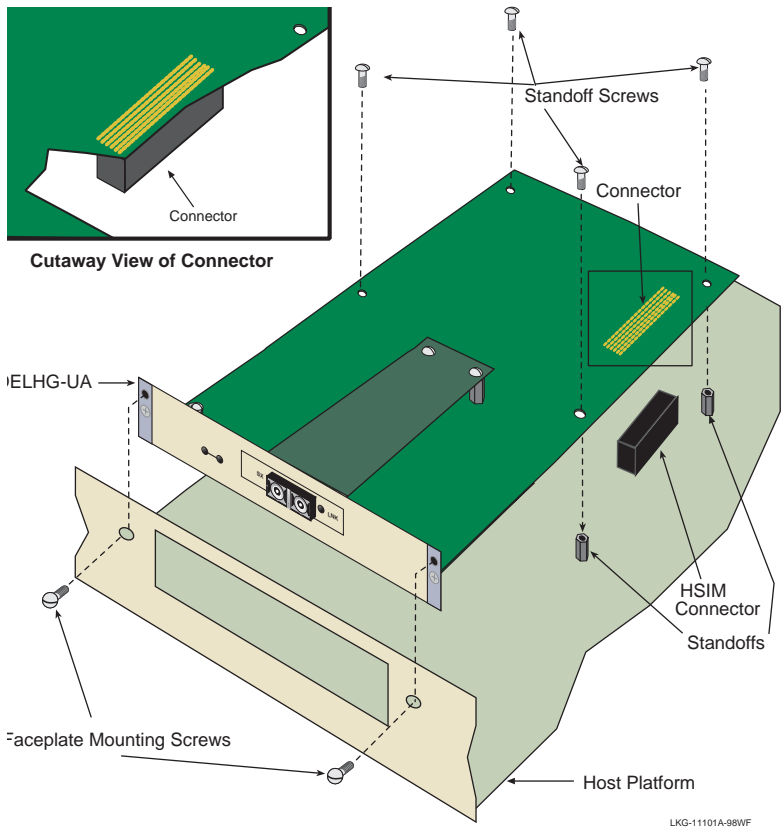

Figure 2-2 Installing the DELHG-UA or DELHL-UA
7. Refer to **Figure 2-2** and place the DELHG-UA or DELHL-UA behind the module faceplate.